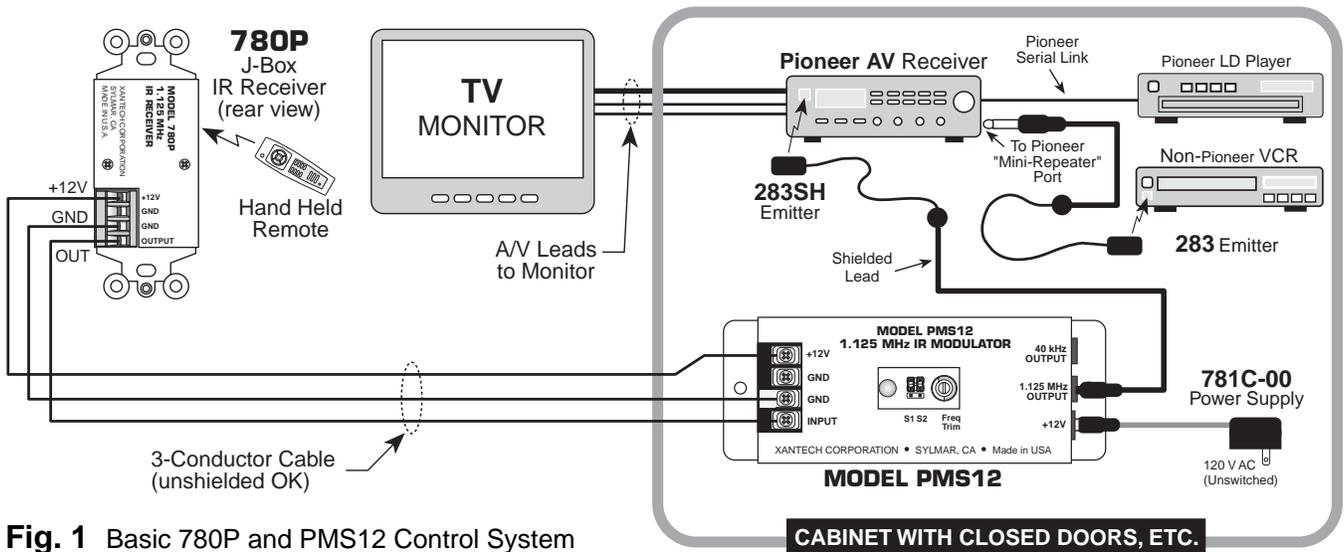

Fig. 1 Basic 780P and PMS12 Control System
1. Use the pre-programmed commands of the Pioneer ISC system to control associated components with the GUI remote through the 40 KHz emitter (MINI-REPEATER) jacks on the back of the Pioneer. If a particular component's commands are not pre-programmed into the ISC, you can teach them to the ISC and then use the GUI for control. See Fig. 1.